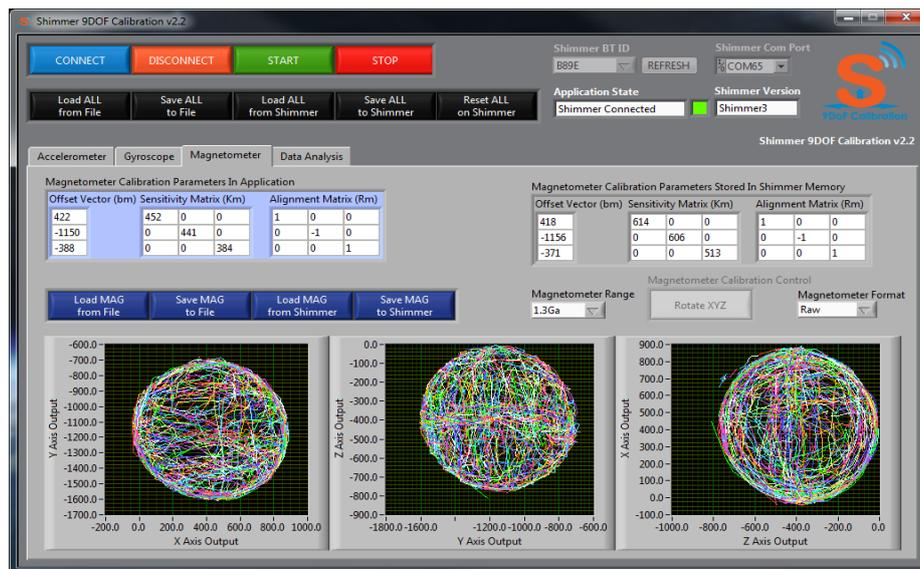

Figure 0-1 Manual magnetometer calibration
1. Complete the magnetometer calibration procedure outlined in section 7.6 which should result in three magnetometer plots as shown in Figure 0-1.
2. Calculate the offset of each axis of the magnetometer by using the graphs shown in Figure 0-1 to find how much the centre of each of the real circles is shifted from the centre of the ideal circle (0,0) .
- I. Find the centre of the circle plotted in the first graph along the x -axis in Figure 0-1 using $(X_{max} - X_{min})/2$, the centre was found to lie at (-56, 208)
3. Calculate the sensitivity of each axis of the magnetometer by using the graphs shown in Figure 0-1 to find the diameter of the circle along each axis and dividing it by two.
- I. Find the diameter of the circle along the x -axis plotted in the first graph in Figure 0-1 using $(Abs(X_{max}-X_{min}))/2$, the diameter was found to be 918.